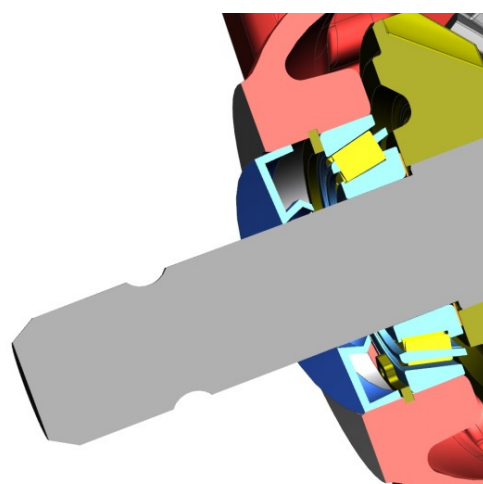

Fig. 5
- Oil seal assemble as shown on fig. 5 out from its housing seat and inclined, is prohibited.